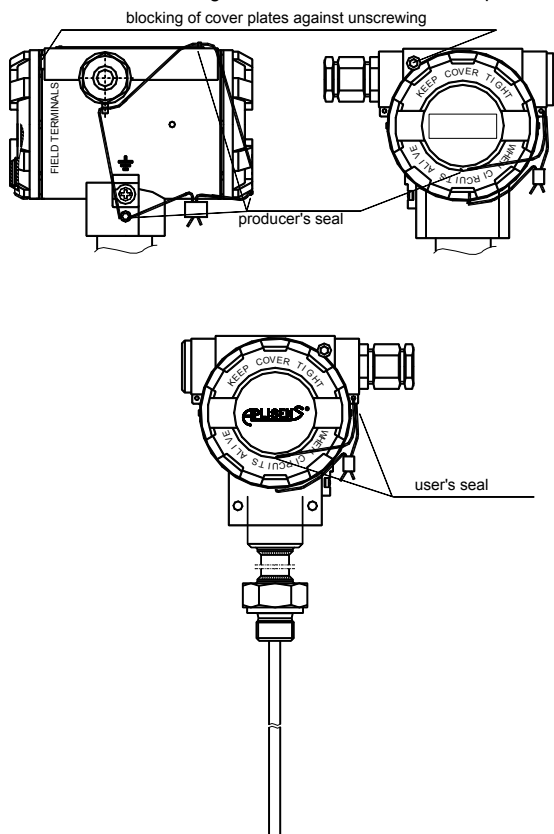

Fig 1c. APT-2000ALW in MID application. Sealed up transmitter.
8.2. Blocking by the gas volume conversion manufacturer. Turn on the "spec MID locking" with local buttons using local menu of transmitter (p.9.2.4 DTR.APT.ALW.03(ENG), MID_WP – "ON"). Put the seals of the gas volume conversion producer on the electrical connection cover, screw of a sensor head and a label if it is metal made. Places of seals application is shown by the arrows at Fig.1c. Seal should be made in accordance with the documentation of gas volume conversions in the place/country their use.